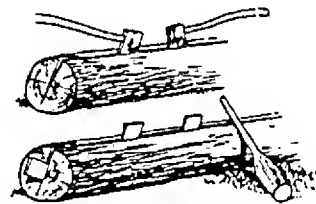

Figure 399 Log Splitting
14. Log Splitting Contest: Log splitting should be done with two axes or a couple of gluts and a beetle as shown in Figure 399. The splitting should always be started at the smaller end of the log. If two axes are used, drive one axe in the side of the log near the end and drive the second axe in the same crack a few inches farther along with its handle in the opposite direction. The second axe should free up the first axe which is withdrawn and driven in again farther down the log, repeating this process until the split has been carried the entire length of the log.